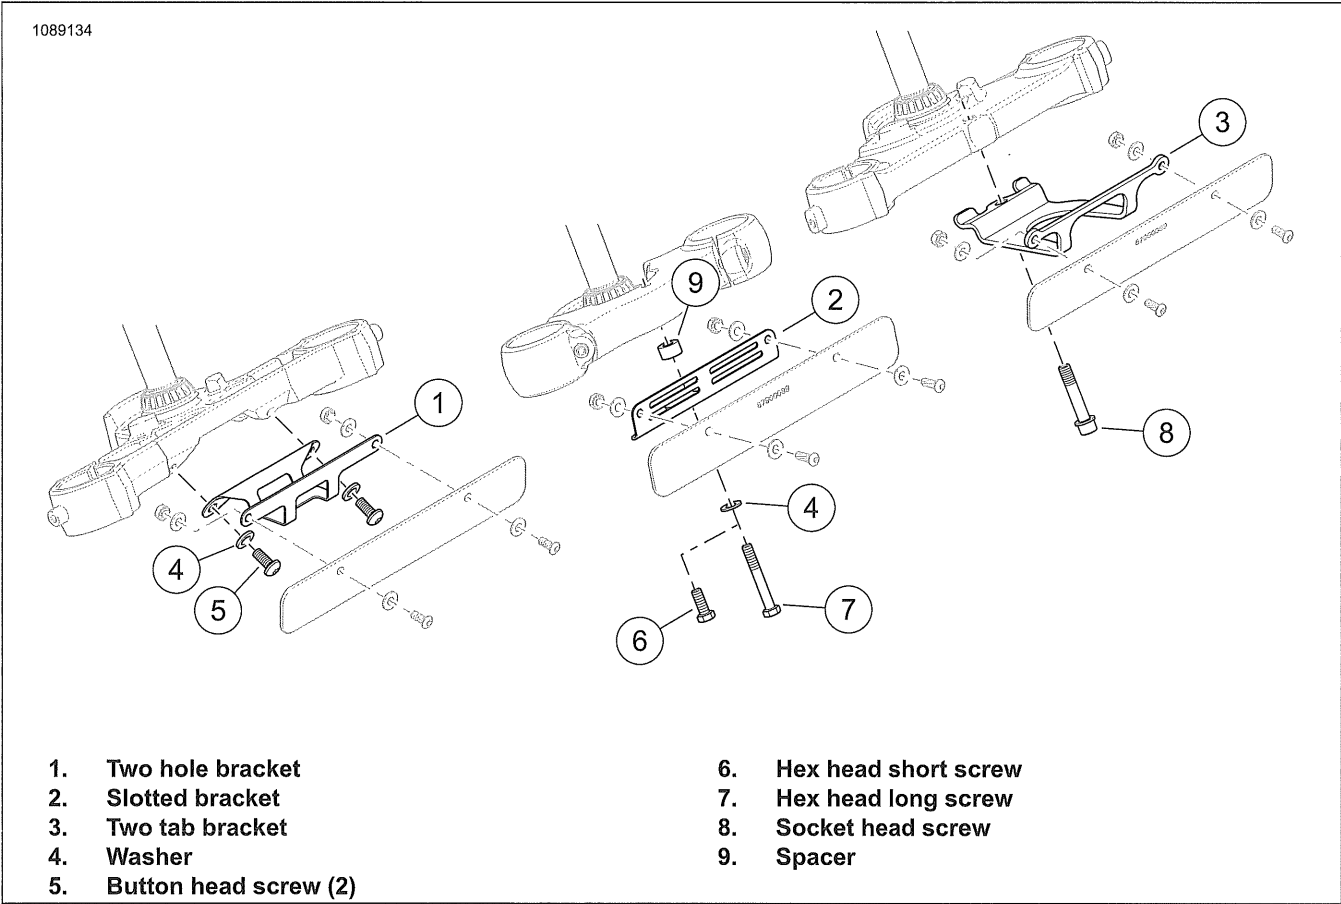

Figure 3-127. License Plate Bracket
- 1. See Figure 3-127. Remove front license plate bracket.
- a. Remove screw(s) (5,6,7, or 8), washer(s) (4) and spacer (9), depending on the bracket.
- 1. See Figure 3-127. Install front license plate bracket.
- a. If equipped with two hole bracket (1), position bracket on lower triple clamp. Install washers (4) and screws (5). Tighten.